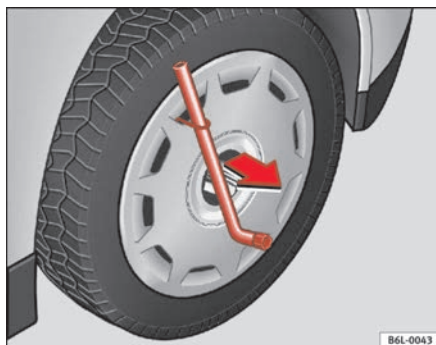

Fig. 135 Remove the complete hub cap
- Remove the wheel cover using the wire hook ⇒ **fig. 135**.